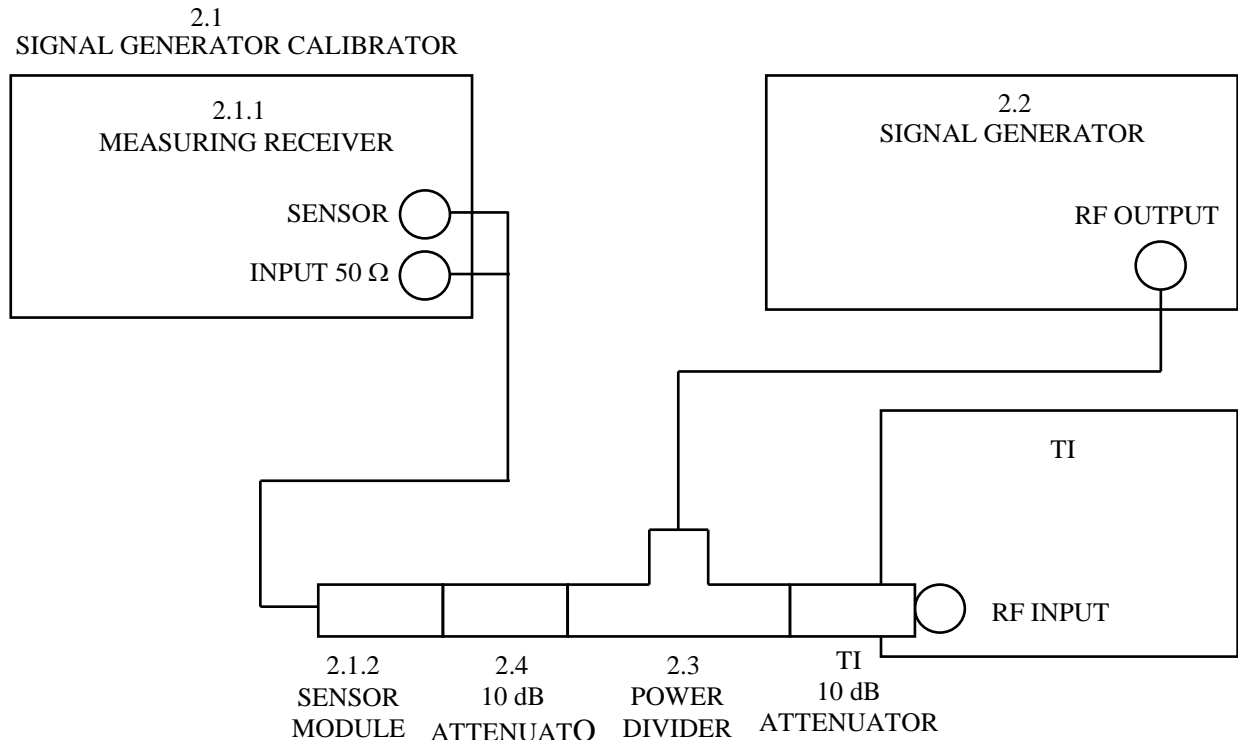

Figure 1. Modulation Test Configuration
4.1.1.1 Connect the equipment as shown in Figure 1. (The TI 10 dB attenuator is normally located behind an access panel on the back right of the TI.)